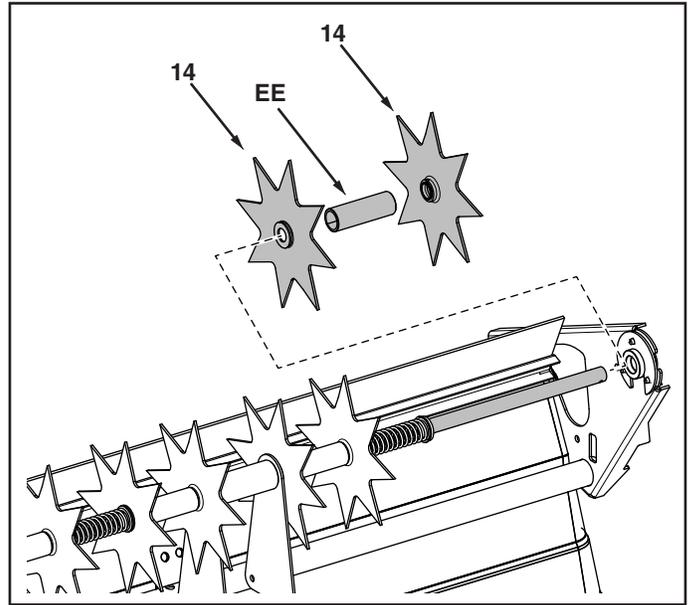

FIGURE 11
14. Assemble two spike disks (14) and a 2.9" spacer (EE) onto the axle. The flat side of the disks should face away from the spacer. See figure 11.